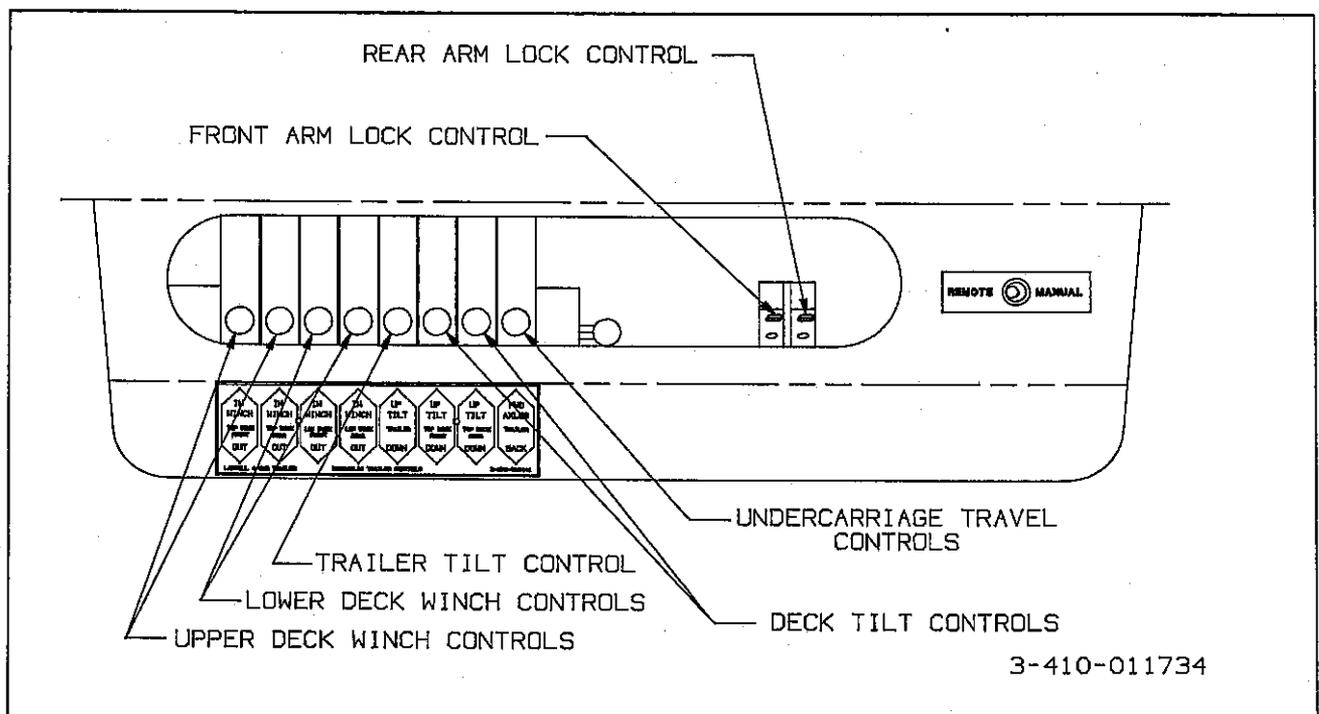
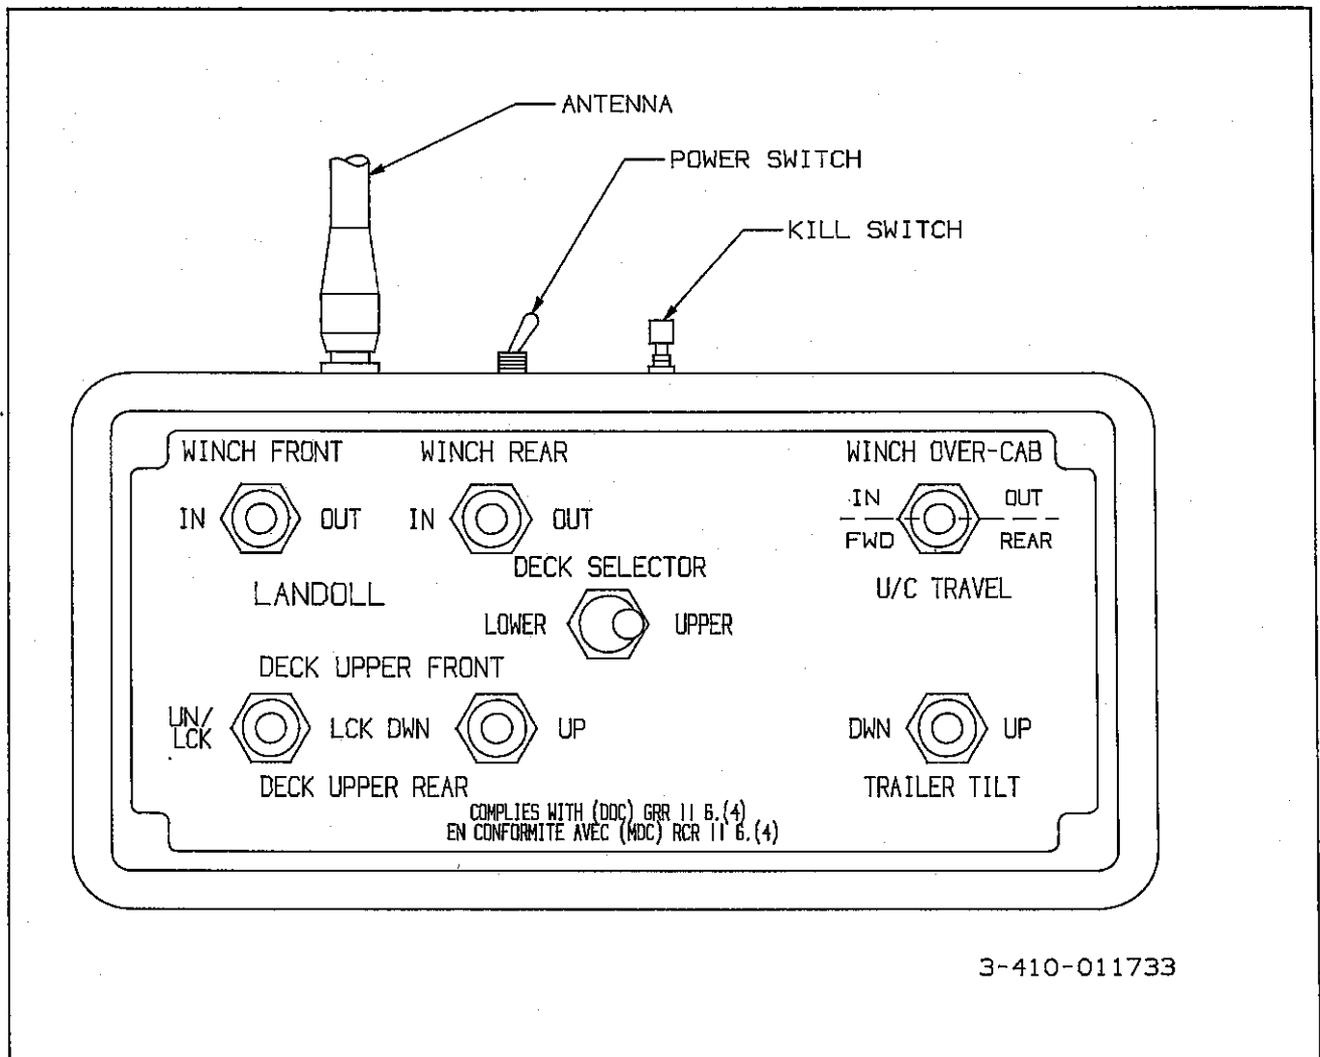

Figure 3-2 Hydraulic Control Levers
Figure 3-4 Remote Control
**3-1.2** The king pin plate should be the same height as, or slightly lower than, the latch area of the fifth wheel plate of the tractor. If necessary, connect the tractor hydraulic lines. Use the **TILT TRAILER** lever (see **Figure 3-2**) to raise or lower the kingpin plate sufficiently to allow proper coupling. Drain all air and moisture from the tractor air brake system in accordance with the tractor manufacturer's instructions.
3-4.1 While hydraulic power is operating, raise the front end of the semitrailer with the **TILT TRAILER** lever (see **Figure 3-2**) until weight is off the landing gear. Raise landing gear. Secure each leg with a park stand retaining pin in fully retracted position before transporting.
3-9.2 The WINCH hydraulic levers (see Figure 3-2) are located on the hydraulic control panel or the remote control (see Figure 3-4) if present. It is a three position control:
3-10.1 The power switch is located on the top of the box and must be turned on for the the remote control to operate. (See Figure 3-4.)
- a. Hold the Lock Control in the unlock position (see Figure 3-2) and joggle the TILT control for that arm until it unlocks.